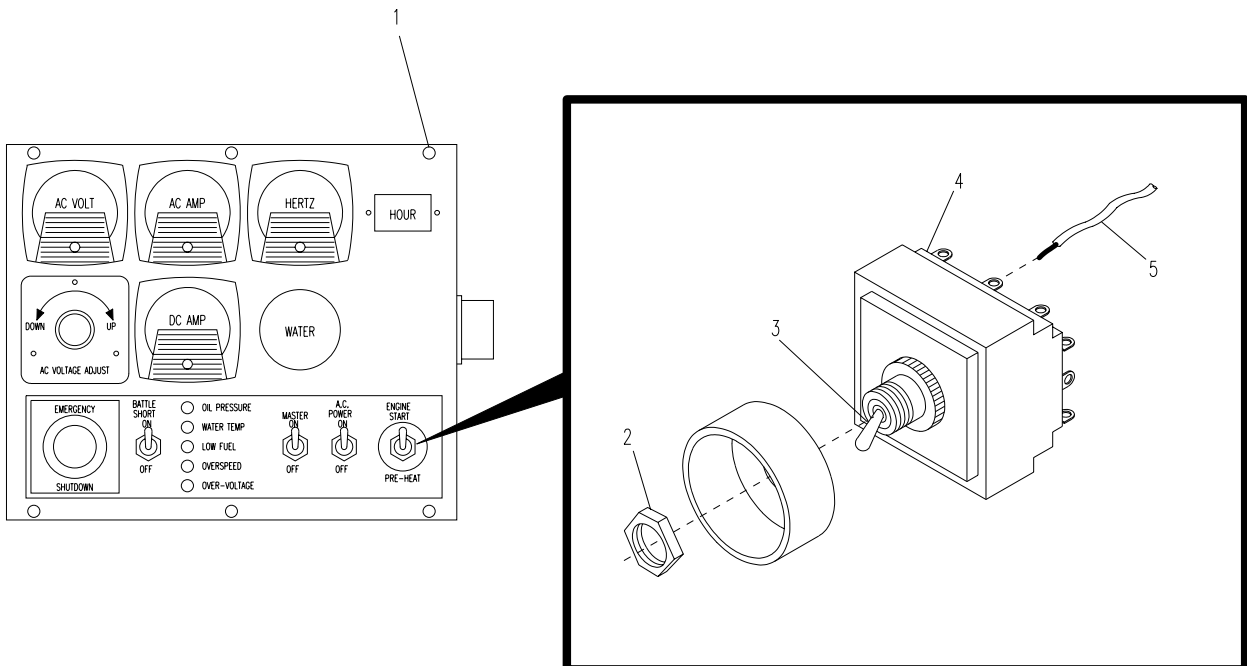

Figure 4-50. START-PREHEAT Toggle Switch
- b. Refer to Figure FO-1 (SICPS/WIN-T) or F0-7 (JTACS). With START-PREHEAT toggle switch (3, Figure 4-50), in the OFF (center) position, use Multimeter to test for no continuity between center terminal and the upper and lower terminals. If continuity is observed, replace toggle switch.
- c. Place and hold START-PREHEAT switch (3) in up position and use Multi-meter to test for continuity across center and upper terminals. If there is no continuity, replace START-PREHEAT switch (3).
- d. Place and hold START-PREHEAT switch (3) in down position and use Multi-meter to test for continuity across center and lower terminals. If there is no continuity, replace START-PREHEAT switch (3).
- a. Remove ten screws (caged nuts (SICPS), machine screws (JTACS and WIN-T)) (1, Figure 4-50) securing APU control unit cover to chassis and remove.
- b. At rear of START-PREHEAT switch (3), item (4), identify and tag terminal leads (5).
- d. Unsolder and remove terminal leads (5) from terminals.
- e. Remove nut (2) securing START-PREHEAT switch (3) to APU control unit cover and remove.
- f. Place START-PREHEAT switch (3) through mounting hole and secure START-PREHEAT switch (3) to front panel with nut (2).
- g. At rear of START-PREHEAT switch (3, item 4), identify terminal leads (5).